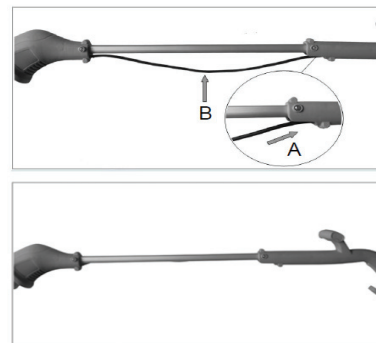

Fig 4
- Ensure the electrical cable is inserted into the groove of the connection tube and install the cable sleeve. (Fig 4)